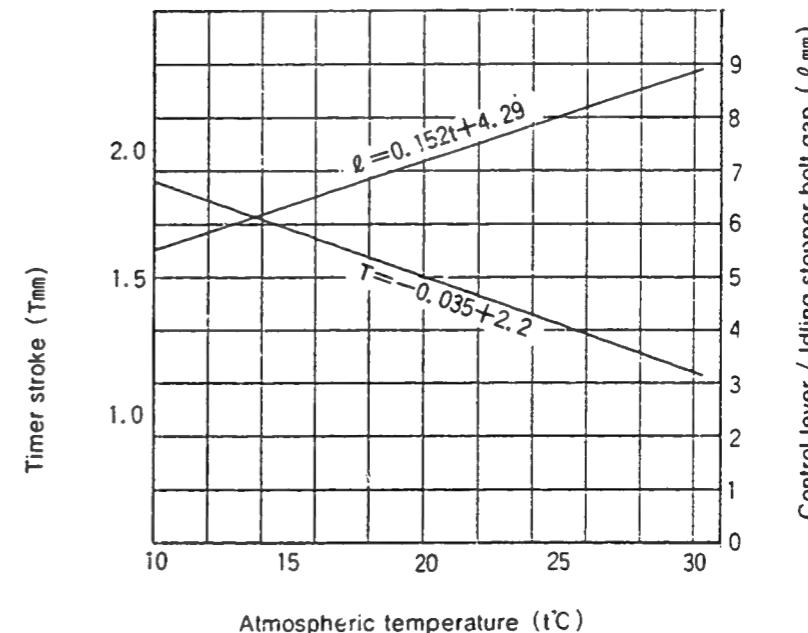

Fig. 2
- i Using the graph (Fig 2) , determine the Timer Stroke according to the atmospheric temperature at the time of adjustment.
- ii Adjust using the Timer Stroke adjusting bolt so that the Timer Stroke corresponds to the value determined in note ① above.
- ② From Fig 2 determine the dimension of the gap between the idling lever pin and the control lever according to the atmospheric temperature at the time of adjustment.
- ③ Adjust using the fast idle adjusting screw so that the gap corresponds to the value determined in note 2) ② above.